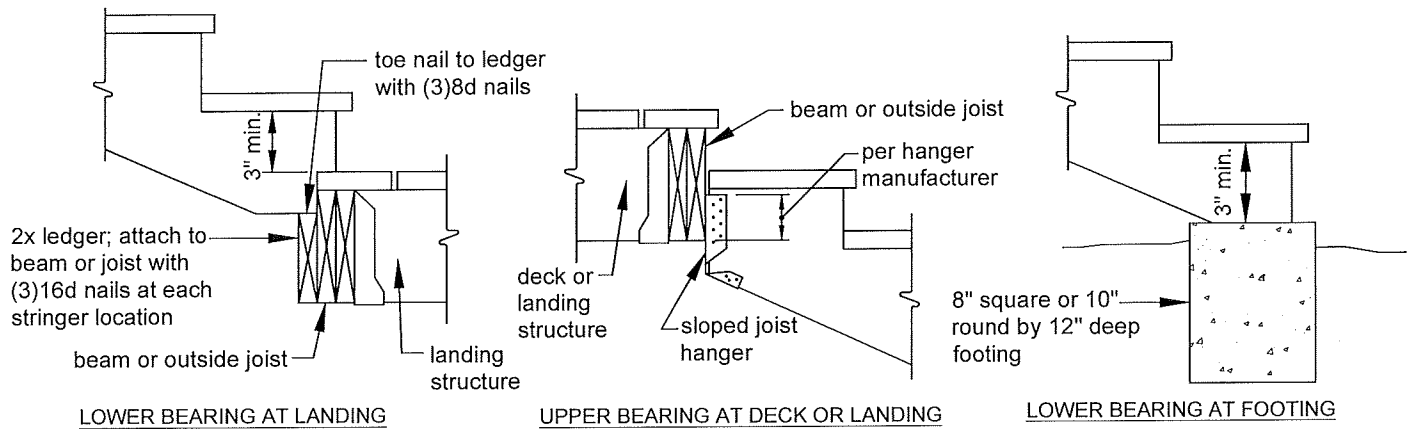

FIGURE 34: STRINGER BEARING
- Stringers shall bear on footings and attach to the deck or landing per FIGURE 34.